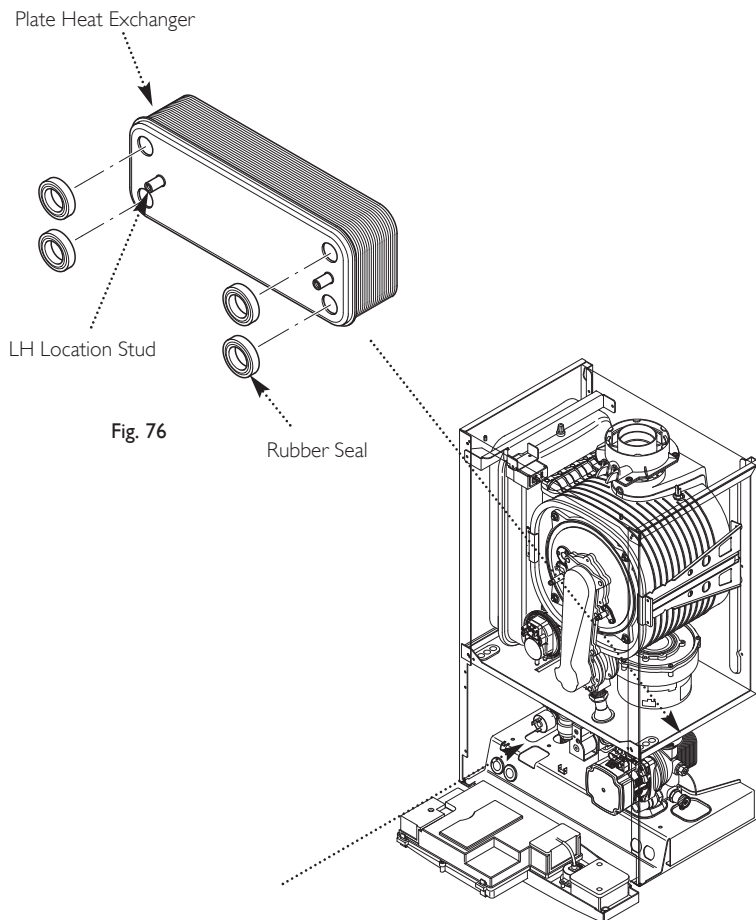

Fig. 76
13.20 Plate Heat Exchanger (Fig. 76)